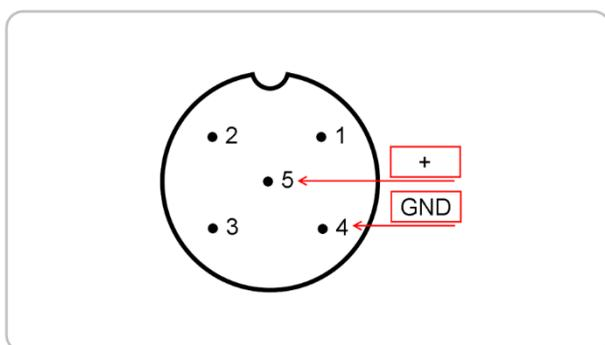

Fig. 2: Pin Assignment for Connection of External 12 V Battery. View of M125-pole Input Socket on MONI-DA rear face.
- For powering the MONI-DA by an external 12 V battery, the relevant pins are marked in Fig. 2.